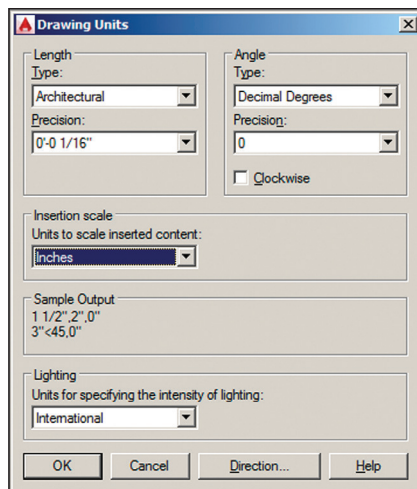

FIGURE 7.8 Setting Insertion Scale in the Drawing Units dialog box
1. Type UN (for Units) and press Enter. Open the Insertion Scale drop-down menu and select Inches (or Centimeters for metric) if it is not already selected (see Figure 7.8). Click OK to close the Drawing Units dialog box.